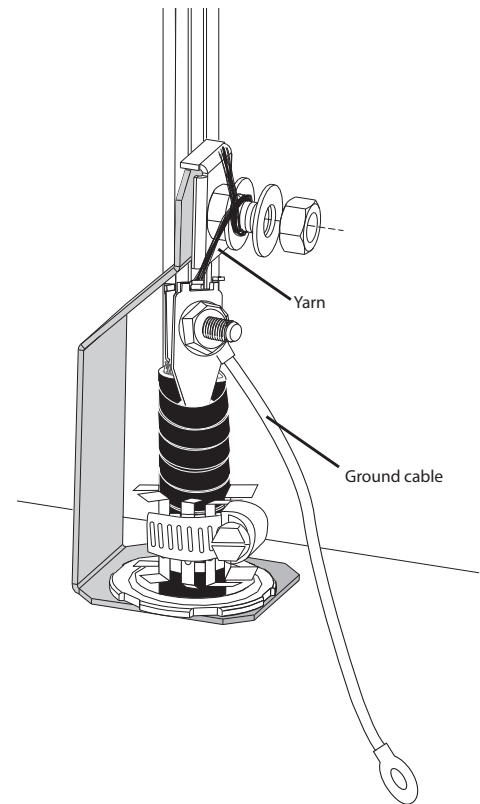

Figure 6
- b. Wrap yarn in a clockwise direction around stud on bracket (Figure 6).